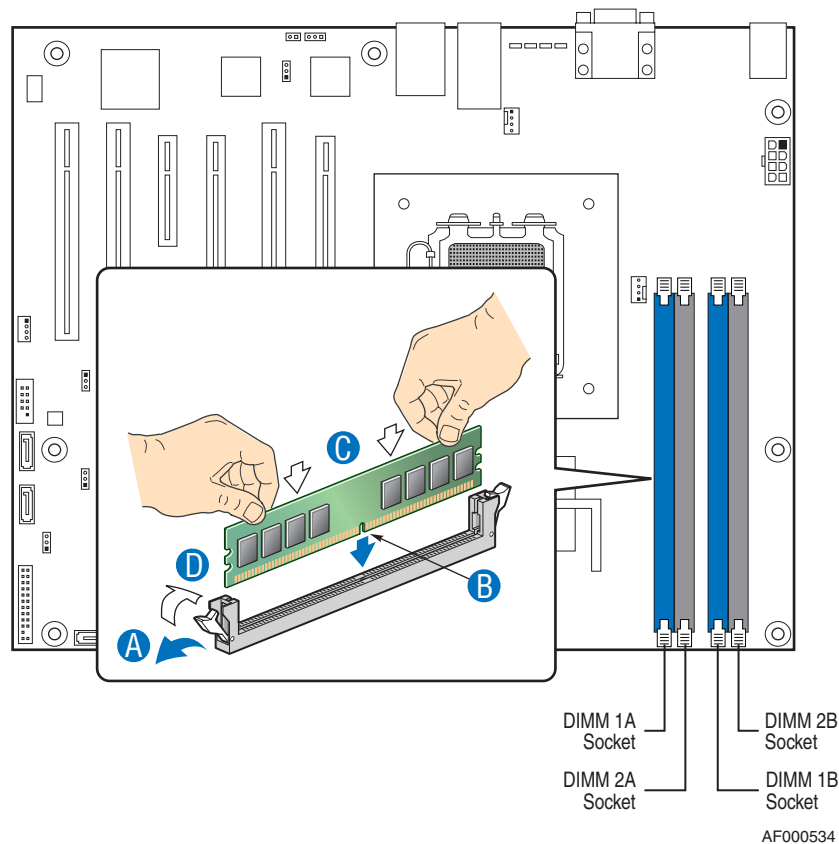

Figure 9. Installing Memory
5. Locate the DIMM sockets (see Figure 9).